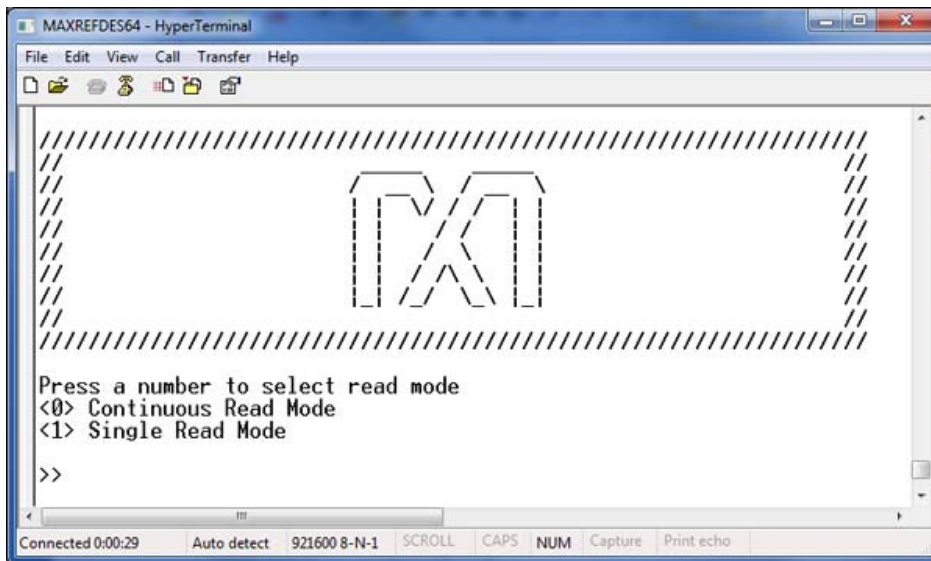

Figure 3. Terminal program main menu.
7. The MAXREFDES64# software will display a menu (**Figure 3**).